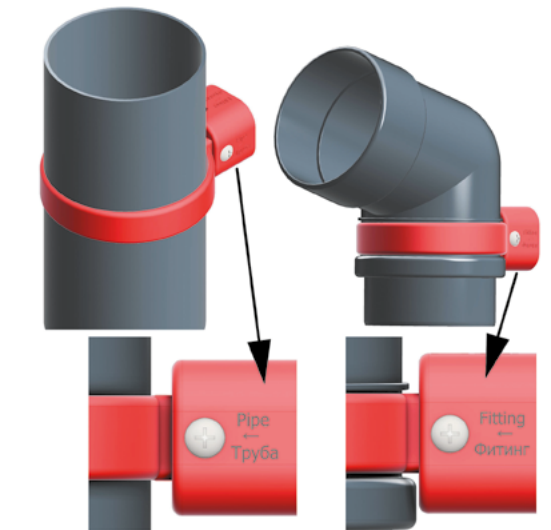
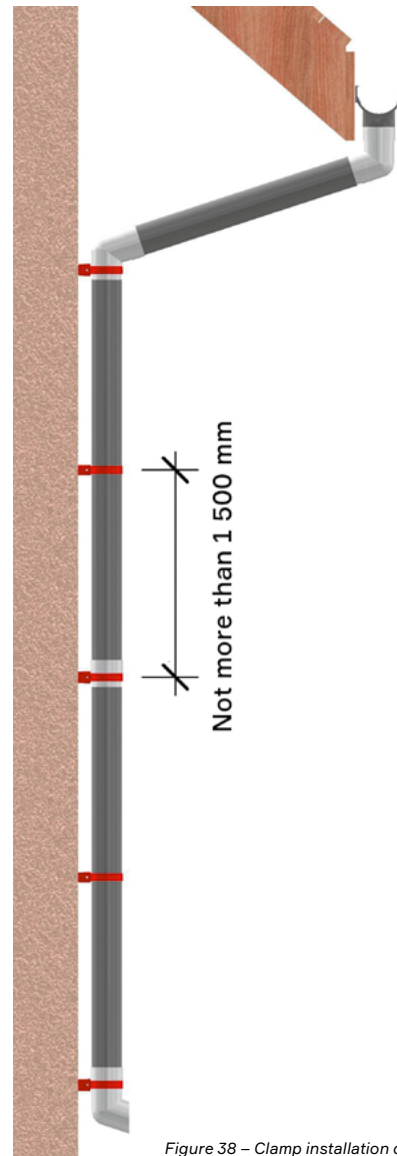

Fig. 37 Clamp positions
Figure 38 – Clamp installation diagram
the elements of the rain gutter system (Fig. 37). Depending on the drain element to be fixed, when mounting, clamp supports shall be installed so that the "FITTING" or "PIPE" mark be on the lateral side of the clamp base:
- Mounting pipes – the clamp support is in the "PIPE" position (Fig. 37).
- Mounting fittings (45° or 72° elbow, connector, down pipe shoe, T-joint, collector, LUX/PREMIUM adapter) – the clamp support is in the "FITTING" position (Fig. 37).
When installing, the maximum spacing between universal clamps shall not exceed 1 500 mm (Fig. 38).
It is mandatory to fix all fittings (45° and 72° elbow, connector, down pipe shoe, T-joint, collector) and pipes to the building facade (Fig. 38 and 39).
Cut a pipe piece to connect the upper elbow to the down pipe shoe, and at a higher height of the building, to a connector. To do this, measure the distance from the pipe stopper in the socket of the down pipe shoe or connector to the mounting stops of the upper elbow and prepare the pipe of the desired size given the requirements of Section 13 (Fig. 38).
Install the pipe connecting the fittings to one another given the gap compensating for temperature expansion. During mounting, please note that the pipes shall also be fixed on the building facade with the help of universal clamps. The maximum spacing between the clamps on the facade shall be 1 500 mm (Fig. 38), with the base of the clamp installed in the "PIPE" position (Fig. 37).